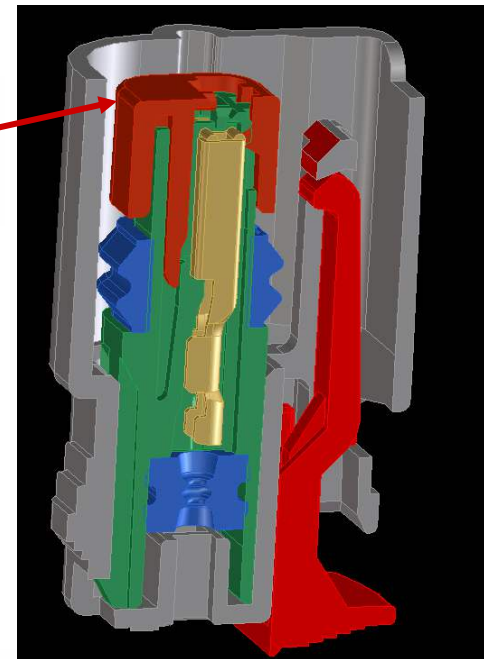

Fig. 3-2
- TPA shown “LOCKED” position (FIG. 3-2)